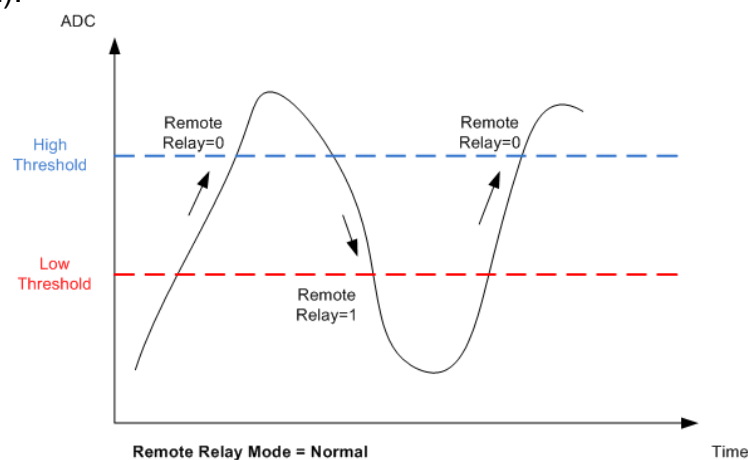

Figure 42. Controlling remote relay when **Remote Relay Mode** parameter is "Normal"
- *Normal* - when the rising analog input value crosses the **High Threshold**, the remote relay (digital output) will be OFF (0). When the falling value crosses the **Low Threshold** the remote relay (digital output) will be ON (1) (Fig. 42).